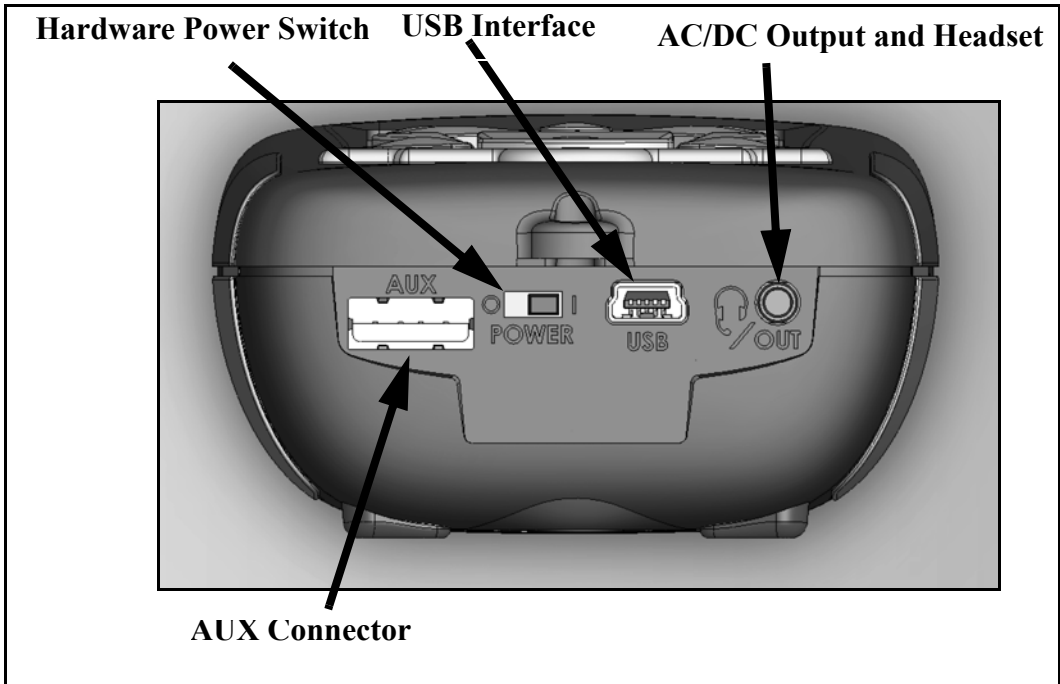

FIGURE 1-4 LxT Bottom View
- **AC/DC output, control, USB, and external power connectors (shown in FIGURE 1-4)**
The Hardware Power Switch on the bottom of the LxT, as shown in FIGURE 1-4 "The LxT Bottom View" on page 1-14 and FIGURE 15-3 "LxT Bottom Panel" on page 15-5, disconnects the batteries from the LxT hardware, including the real time clock. This prevents battery drain when the LxT is not in use for an extended period of time (≥ 2 weeks). If the Hardware Power Switch is in the "O" position, the batteries are disconnected.